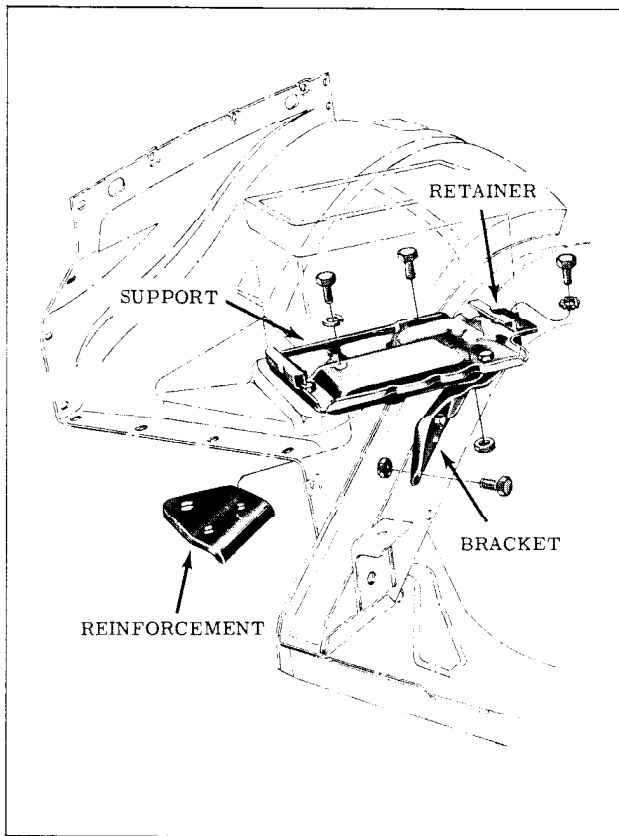

Fig. 11-25 Battery Supports
1. Remove two outer bumper to stone shield bolts, four bracket to body frame bolts and remove bumper. (Fig. 11-25)
The battery support is bolted to the bracket and reinforcement as shown in Fig. 11-25. Apply petrolatum to both battery terminals before attaching cables.